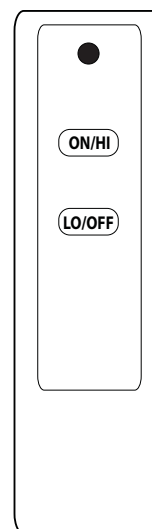

Fig. 13-1 Remote transmitter detail
2. Locate the remote transmitter and press the **ON/HI** button (see Fig. 13-1). The ignition sequence will begin.